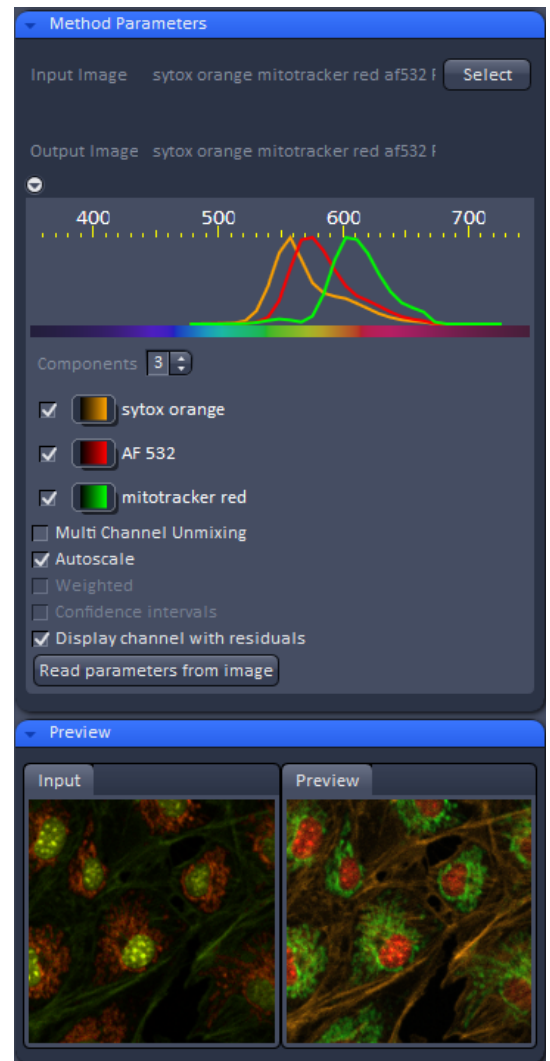

Fig. 272 Linear unmixing panel
- In the **Linear unmixing** panel (Fig. 272), the number of spectrally distinguishable fluorescent components within the imaged sample can be selected from the **Components** selection box. The number of extractable components cannot be higher than the number of acquired channels. The ZEN software is limited to a maximum of 10 components.